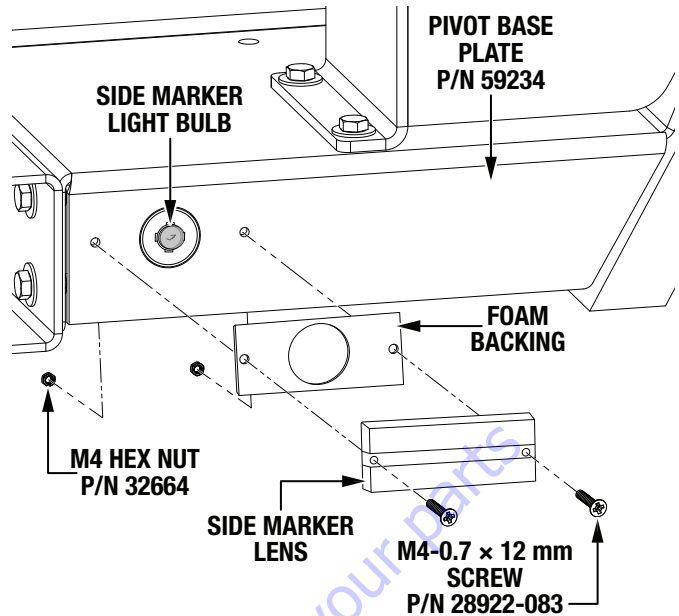

Figure 22. Side Marker Installation
- Place the side marker light bulb socket into the hole in the pivot base plate (P/N 59234). Secure the side marker lens and foam backing to the pivot base plate with two M4-0.7 x 12 mm screws (P/N 28922-083) and two M4 hex nuts (P/N 32664). See Figure 22.